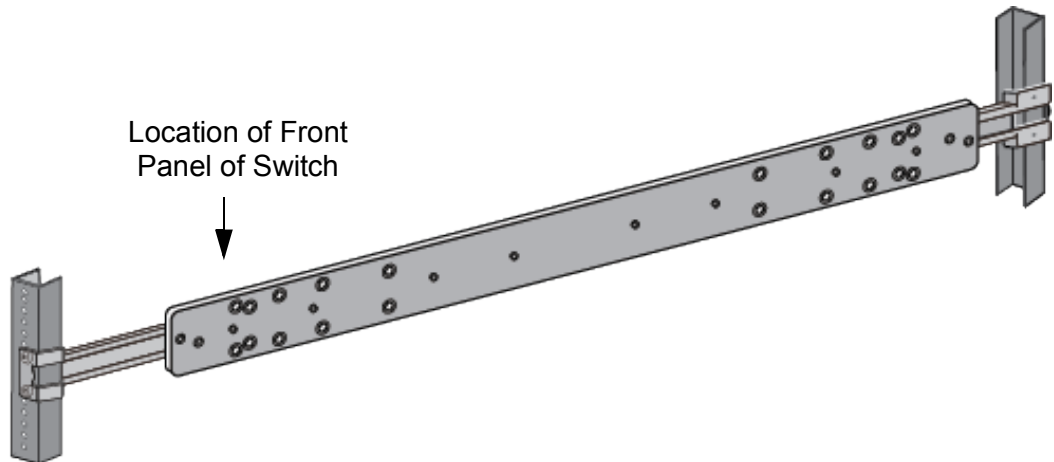

Figure 88. Example of Positioning the Inner Rail
2. Position the inner rail at the planned location for the front panel of switch in the sliding rack. Refer to Figure 88.